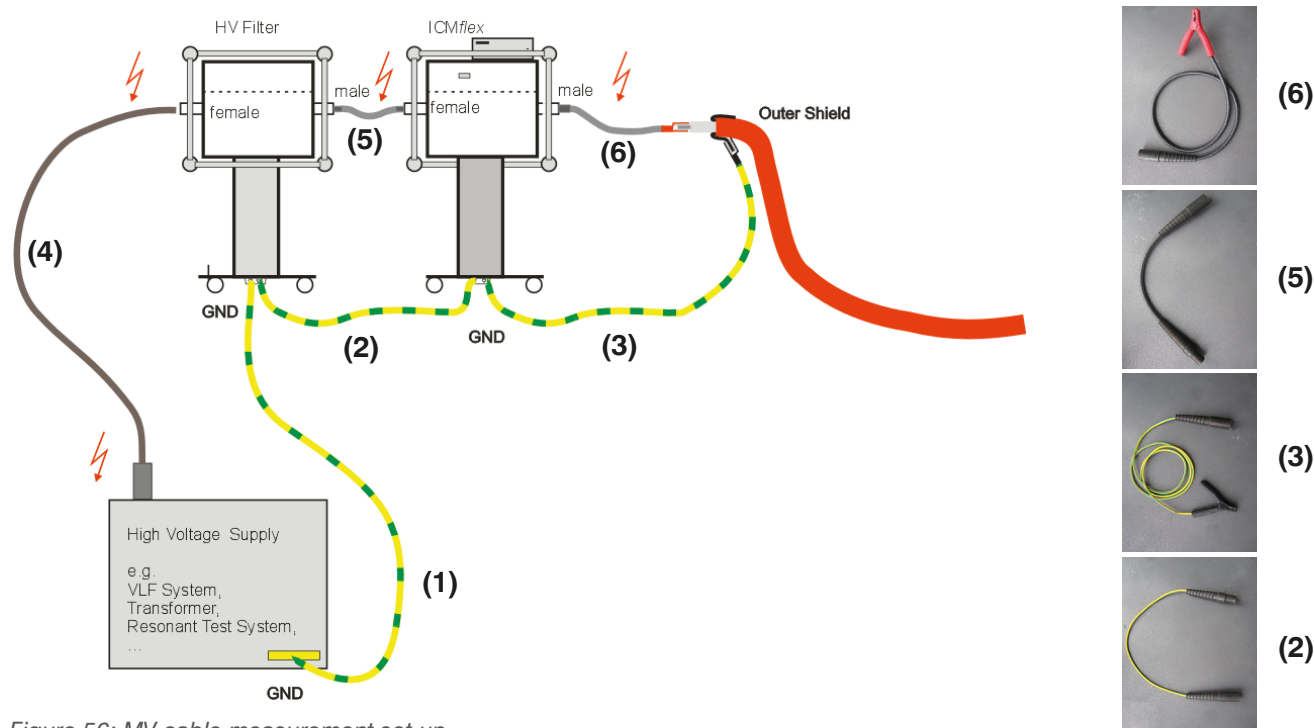

Figure 56: MV cable measurement set-up
A general description of the measurement set-up is given in section 3, but here, the focus is on medium voltage (MV) and high voltage (HV) voltage cable applications. The order of connecting the various links is shown in Figure 56. Most important is the interconnection between the main grounding of the high voltage supply and the cable ground shield (1–3). The final link from the grounded baseplate of the ICMflex to the ground shield must be as short as possible (3). The HV output cable of the ICMflex must be connected to the inner conductor or termination (6).